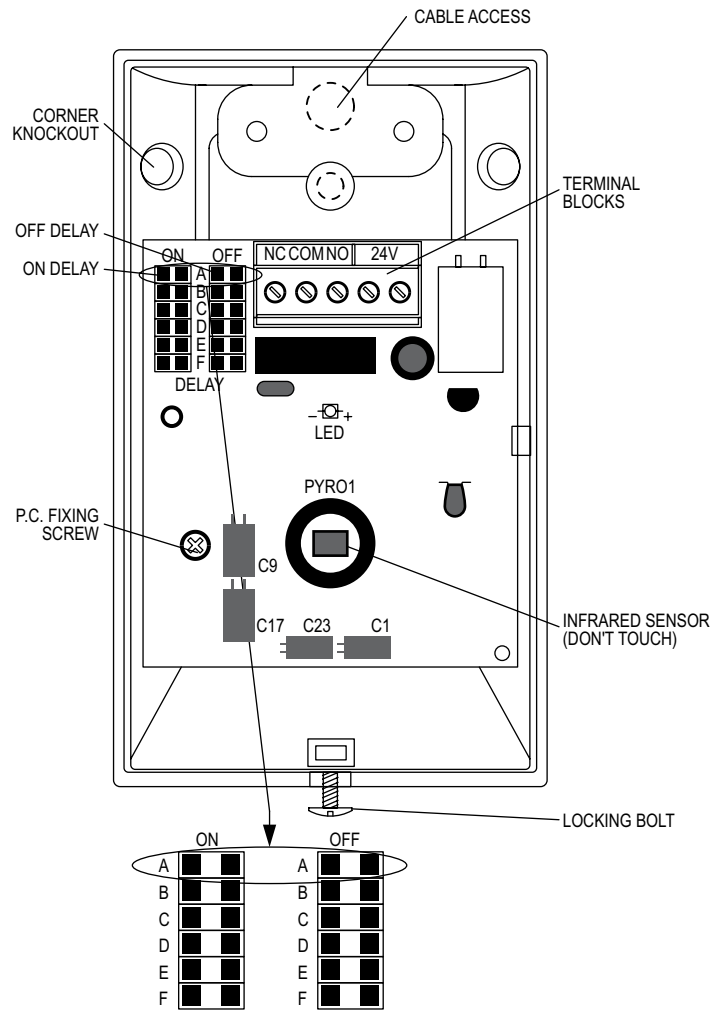

Figure 4
Before beginning test, make certain that the On and Off delay jumpers (located on the circuit board) are connected in the "A" positions as shown in Figure 4. If they are not, follow the procedure under the section titled On/Off Delay Settings to rearrange the jumpers to location "A." Replace the sensor housing and tighten screw.
2. Refer back to Figure 4 to locate the ON/OFF Delay pins and jumpers on the circuit board.